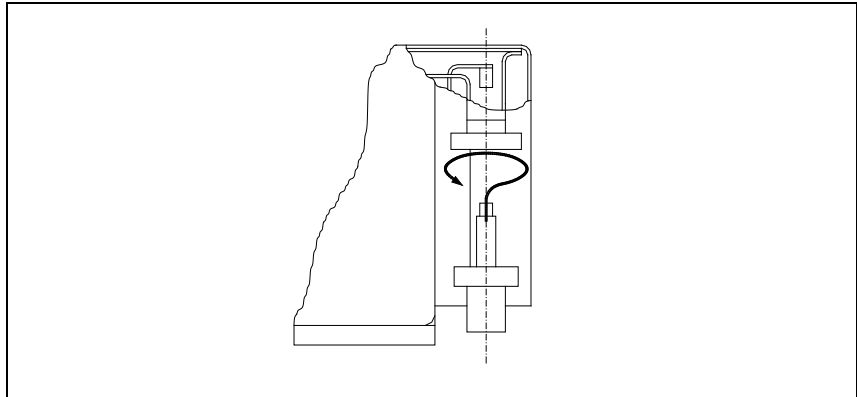

Figure 48 High voltage feedthrough connection
- 1 Remove the 6 bolts of the Mini-ConFlat flange connection (see Fig. 48).